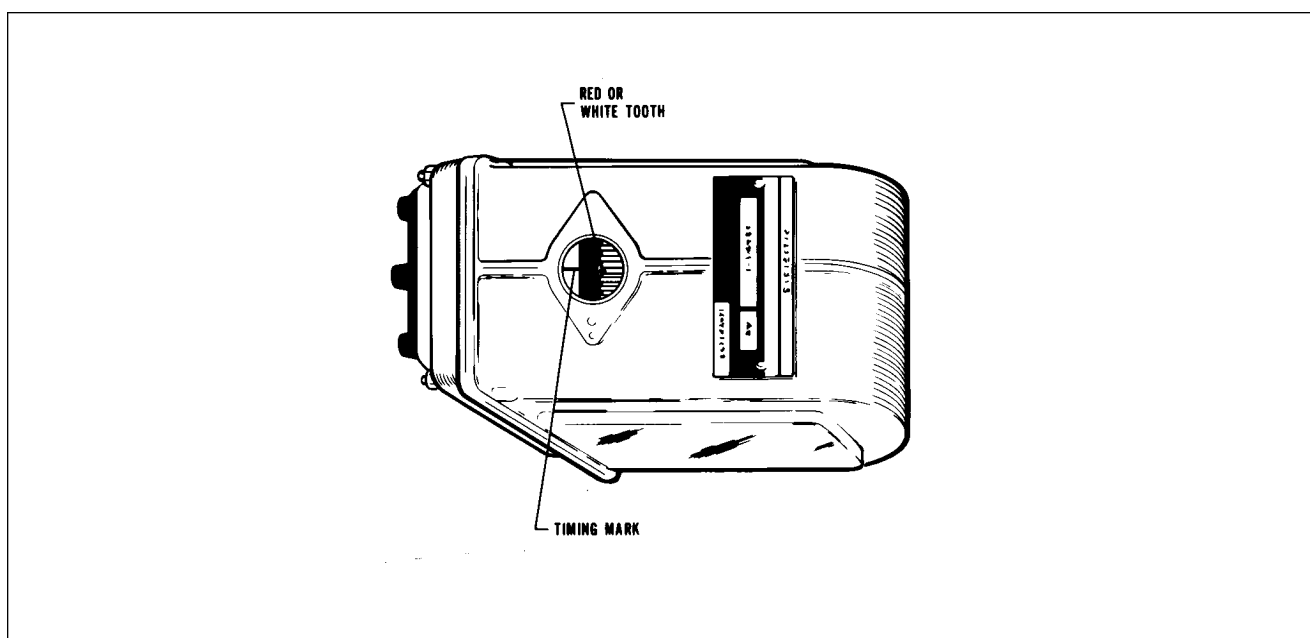

Figure 74-30. Magneto Timing Marks
2. At this point, the engine is ready for assembly of the magnetos. Remove the inspection plugs from both magnetos and turn the drive shafts in direction of normal rotation (counterclockwise facing the coupling), until the first painted chamfered tooth on the distributor gear is aligned in the center of the inspection window. (Refer to Figure 74-30.) Being sure that the gear does not move from this position, install gaskets and magnetos on the engine. Secure with washers and nuts; tighten only finger tight.